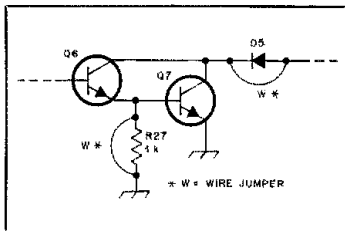

Fig. 6 — Circuit changes for the Heath HD-1410 keyer, to allow it to be used with a solid-state rig.
□ When I purchased a new solid-state rig, my Heath HD-1410 electronic keyer would not work with it. The instruction manual for my new rig indicates that the keyer must be able to pull the keyed line down to +0.4 V or less. I measured the key-down voltage with my keyer connected. The potential was +0.6 V. Two simple changes to the keyer circuit cured the problem. D5, at the collector of Q7, and R27, at the base of Q7, must be shorted out of the circuit. I soldered jumper wires around each part (Fig. 6). For those wishing to use the keyer with tube and solid-state types of rigs, a dpst switch can be installed on the back panel. The jumper wires are then connected through the switch. After this modification, the output voltage from my keyer was about +0.2. — *Steve Blomquist, KB0QK, Kansas City, Missouri*